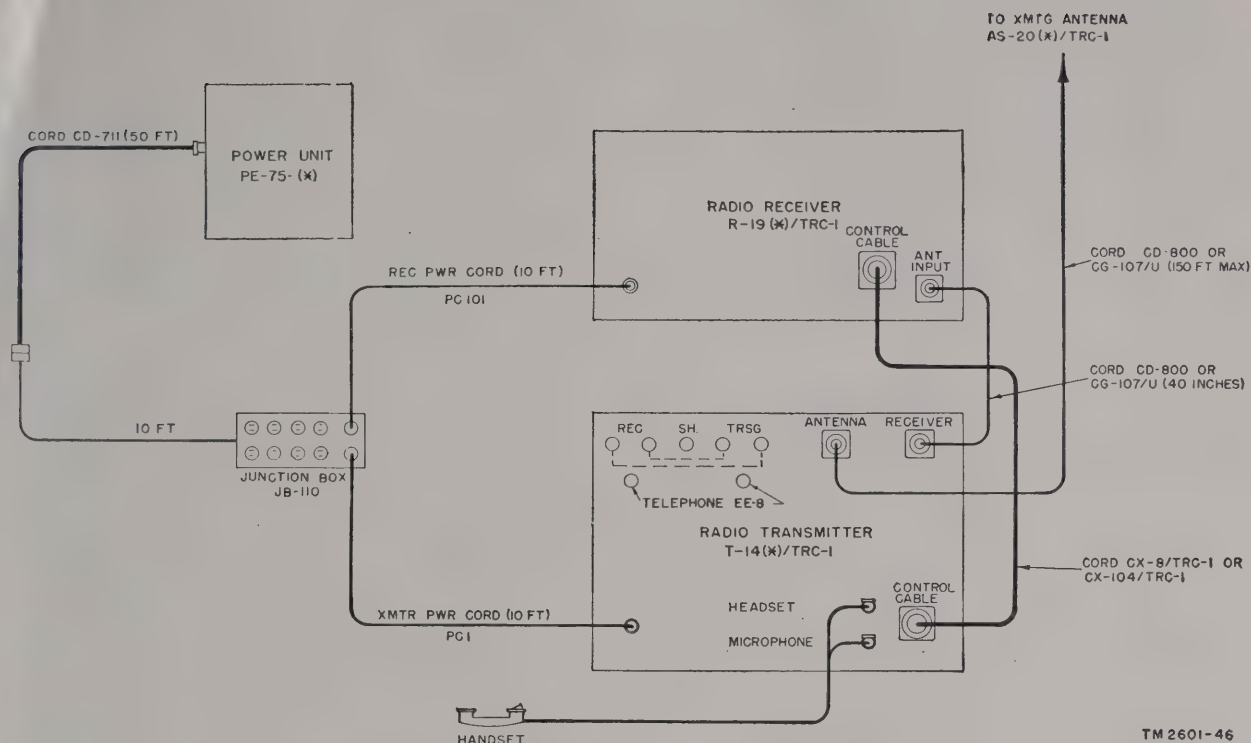

Figure 74. Cording diagram of Radio Set AN/TRC-1(*) for single-channel simplex terminal station.
d. Connect the receiver and transmitter as shown by the cording diagrams (figs. 74 through 78) depending on the type of operation required.
99. Connections for Single-Channel Simplex Terminal Station (fig. 74)